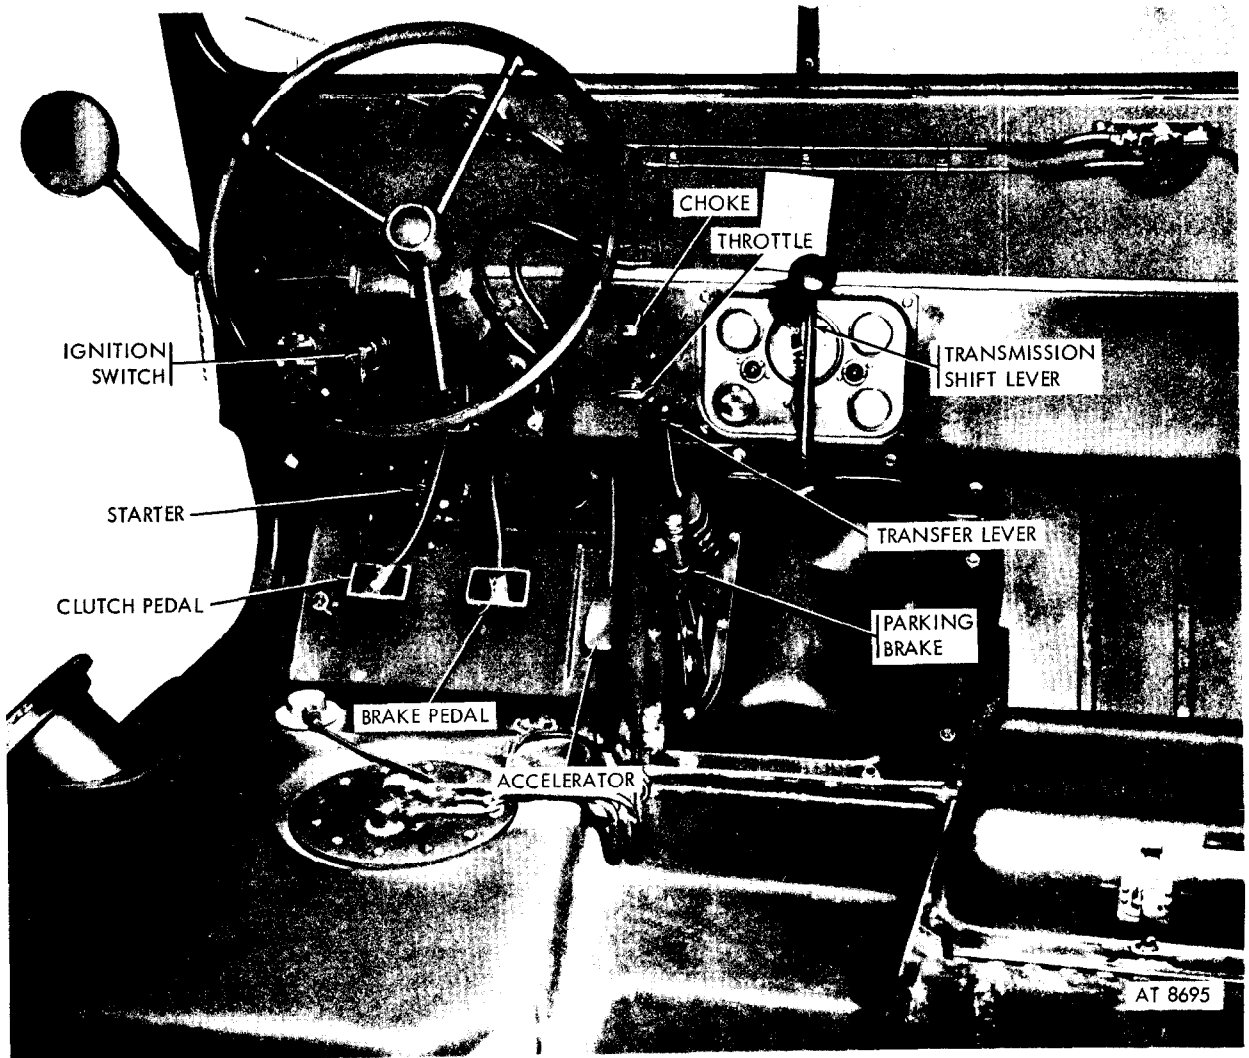

Figure 2-6. Starting and driving controls.
b. Apply (pull back) parking brake (figs 2-6, 2-1-(J)).
c. Place transmission (gear) shift lever in neutral (figs 2-6, 2-1 (H)).
*e.* Release parking brake lever (figs 2-6, 2-1-(J)) and move lever forward to release parking brake.